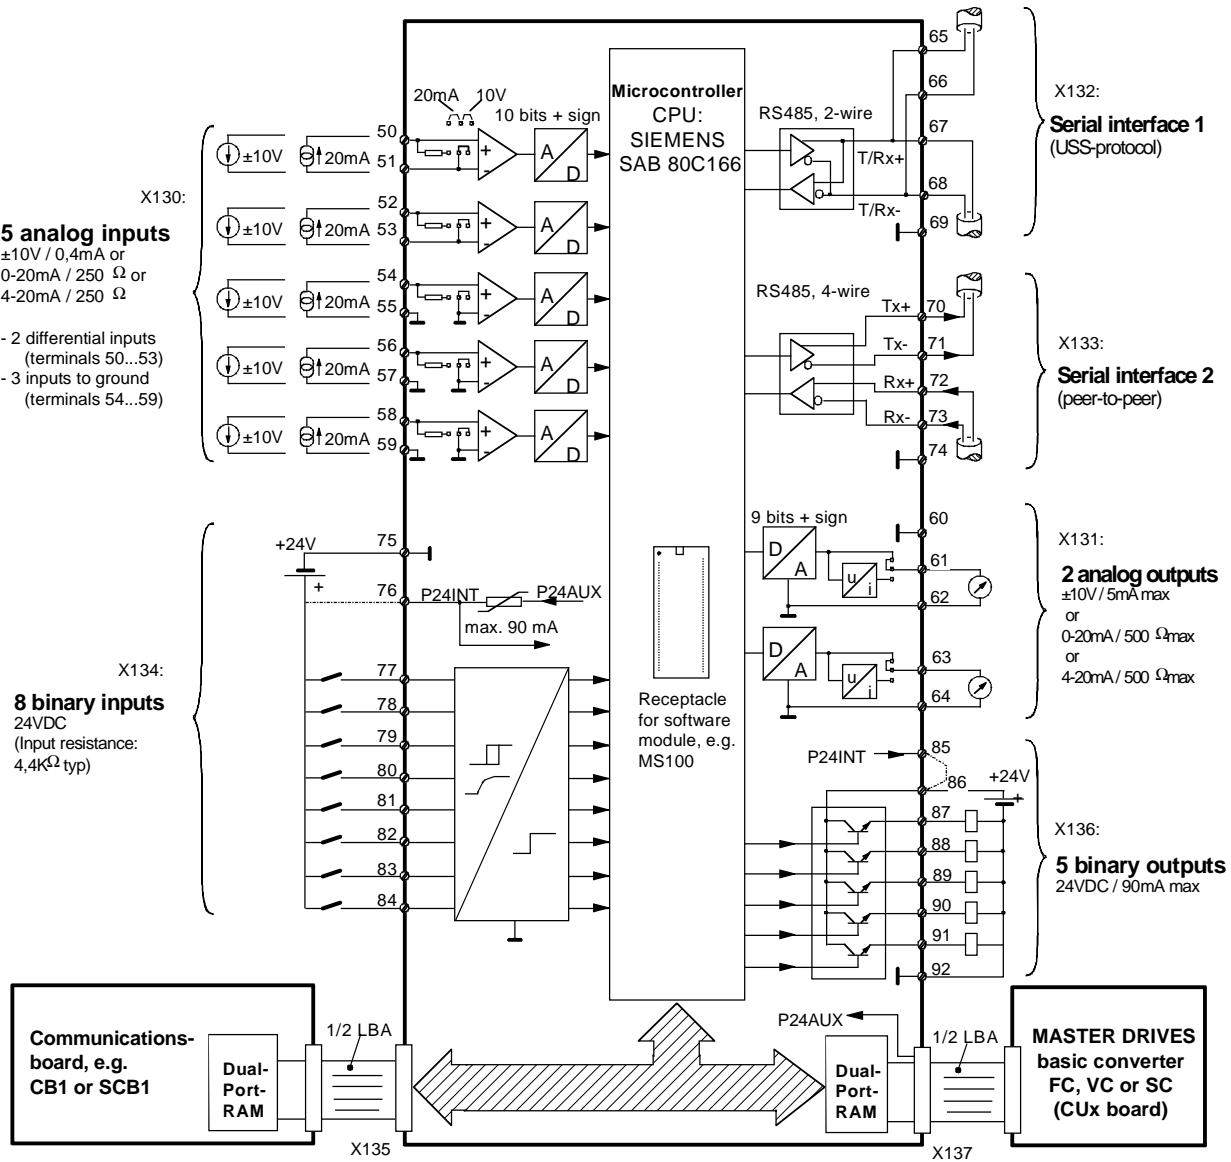

Fig. 1.1 Connection diagram for T100 technology board
3.3 Terminals (see also terminal connection diagram, Fig. 1.1)